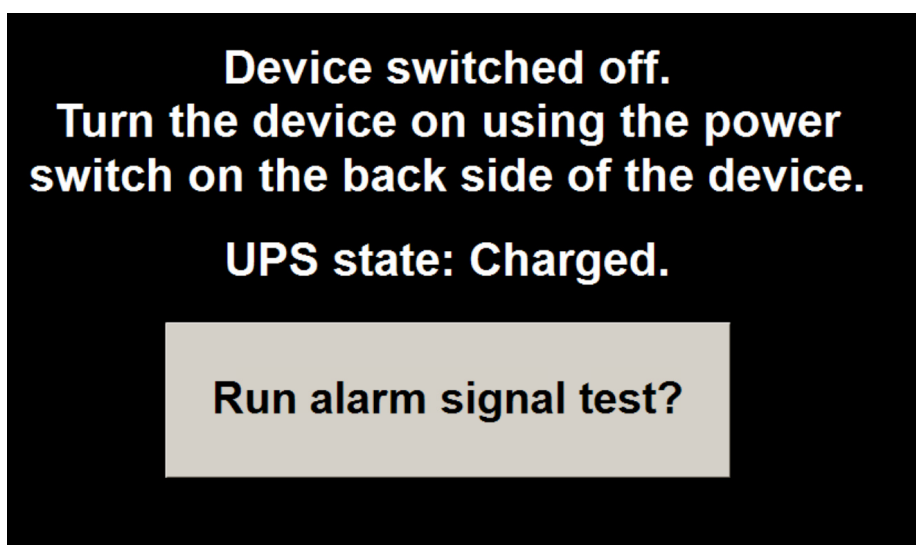
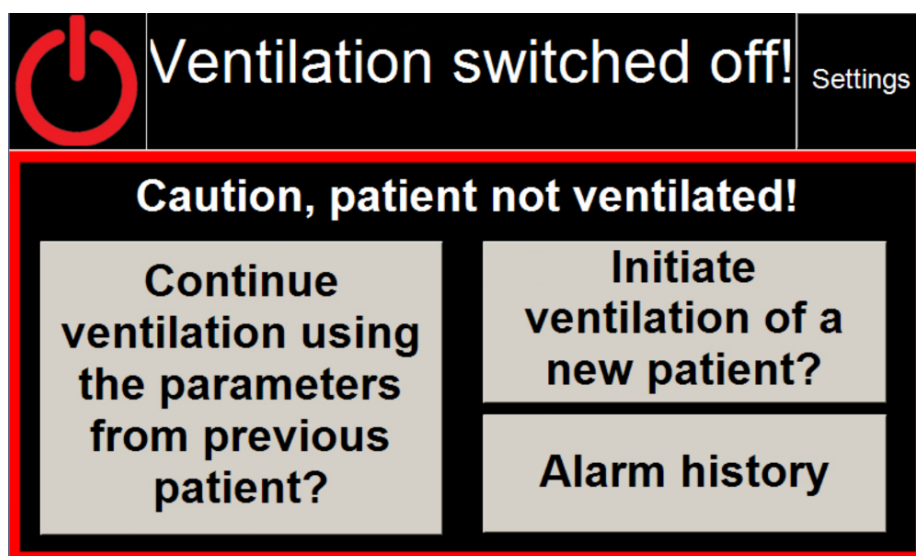

Fig. 9: Screen of the switched off device after plugging the power cable.
Fig. 12: Standby mode screen.
When the CoroVent device is connected to the power supply source via the mains cable, the main screen of the switched-off device (Fig. 9) appears with the information concerning **status of UPS** (uninterruptible power supply) **charging**.
1. When the device is in ventilation off mode, turn on the device by the main ON-OFF switch on the rear panel of the device. The basic Standby mode screen appears (Fig. 12).
5. The initial tidal volume (VT) is set to low, therefore set VT to the desired volume depending on the needs of a specific patient using the **“+ VT”** button, observe the current tidal volume on the ventilator display.
When the CoroVent device is connected to the power supply source by a mains cable, screen of the switched off device appears (see Fig. 9). To activate the device in the Standby mode, turn on the device with the main ON-OFF switch on the rear side of the device. The Standby screen appears (Fig. 12).
Ventilation can be started on the main Standby mode screen (Fig. 12). After clicking on **“Continue ventilation with parameters of the previous patient?”**, ventilation with the previous patient's settings will be started, including alarm limit settings. After clicking on **“Start ventilation of a new patient?”**, ventilation will be started with the factory default settings.